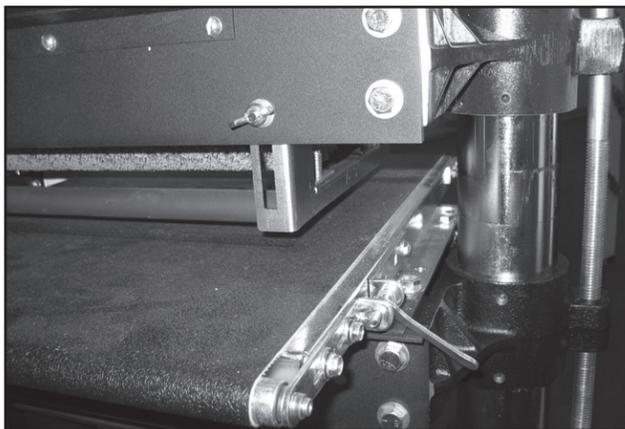

Fig. 11
2. Set tension rollers to type of stock being sanded (See Tension Roller Adjustment below and Fig. 11).
Spring loaded infeed and outfeed Tension Rollers (Fig. 11 & 23) are provided to maintain downward pressure on stock being sanded and to prevent slippage of the stock on the feed conveyor. When properly set, the Tension Rollers should engage or raise up about 1/8" to accommodate the stock being brushed.
Flat Surfed Stock: Set the bottom of the tension rollers even with the bottom of the brush. Loosen the four Tension Roller locking knobs (Fig. 11). Raise the table to the "0" mark on the Depth Gauge. At this position, the brush and Tension Rollers are resting on the table surface. Lock all four Tension Roller knobs. For example, to brush a 3/4" thick flat board, lower the table to 5/8" on the Depth Gauge. This allows 1/8" for Tension Roller engagement and 1/8" brush penetration.
all four tension roller locking bolts (Fig. 11). Adjust the conveyor table 1/4" into the bristle tips (measure with a ruler from "0" mark on depth gauge.). At this position, the tension rollers are resting on the table surface and are positioned 1/4" above the bottom of the brush. Lock all four Tension Roller locking bolts. To brush the piece, lower the table to the 3/8" position on the Depth Gauge. This allows for 1/8" of tension roller engagement and 3/8" of brush penetration.
The depth gauge (see Fig. 11) measures the distance between the conveyor table and the bottom of the sanding brush. The sanding brush must be parallel to the conveyor bed surface. To calibrate the depth gauge, loosen the locking knob of the lower depth gauge casting so it rests on top of the table support casting. Raise the conveyor table until it touches the sanding brush. Then loosen the locking knob of the upper depth gauge casting and position the “0” mark of the scale even with the top of the lower depth gauge casting. Lock the upper depth gauge casting in position.